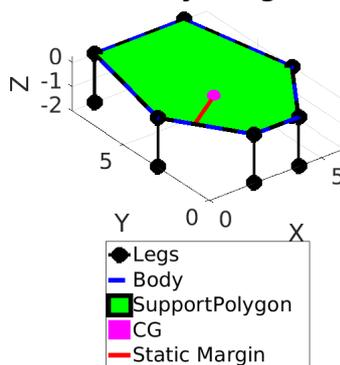

Figure 2: Robot with all legs planted on the ground
1. Use the `drawLeggedRobot.p` script provided to verify your S_n values, as shown in Fig. 2. The file `drawLeggedRobot.p` is an encrypted m-file (you cannot see its contents). It will not “open” in Blackboard. You must download it, place it in your working directory, and call it according to the syntax from within MATLAB as you would any other MATLAB file.